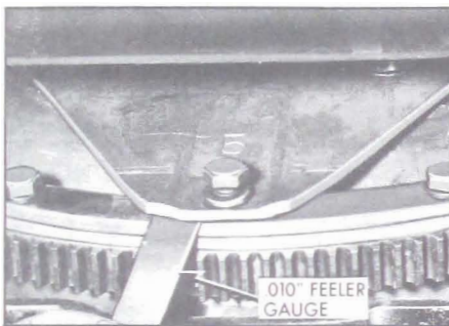

Figure 2-46—Checking Contact Between Pump Cover and Flywheel
1. Loosen one flywheel attaching bolt and check contact between flywheel leg and converter pump cover. A .010" feeler gauge should slip between flywheel and cover with slight drag. See Figure 2-46.